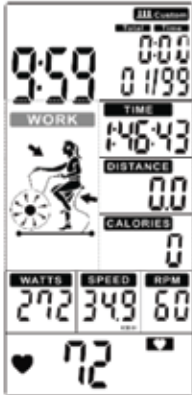

Figure 36
- 5 Cycle time counts down from the preset total time and WORK flashes once per second . Then TOTAL TIME, DISTANCE, CALORIES, WATTS, SPEED & RPM start calculating, counting displays '01/XX'(Figure 36).